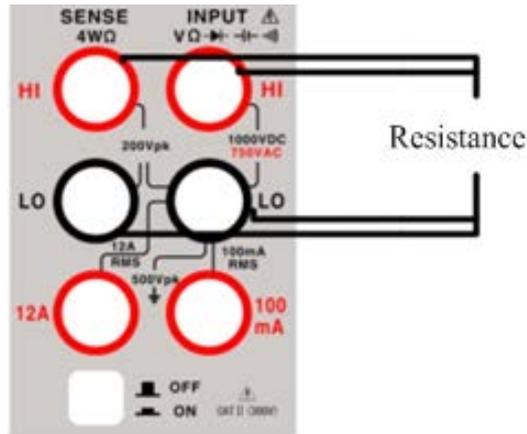

Figure 2.3.4 4W resistance measurement terminal connection
2. According to Figure 2.3.4, connect the red and black test leads respectively to the proper input terminals.